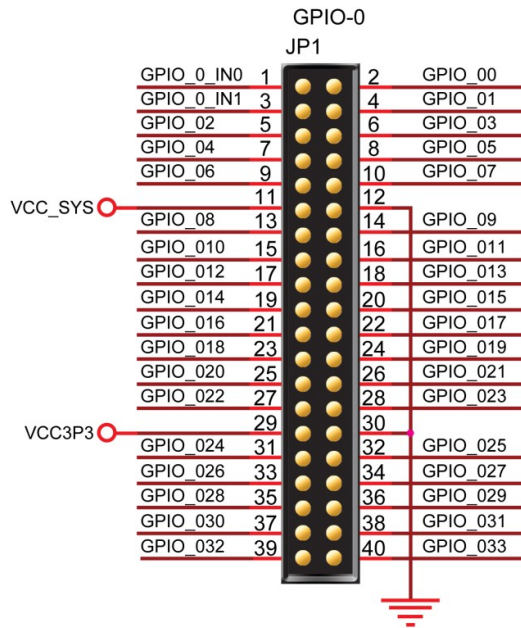

Figure 4: Pin Distribution of the GPIO-0 Expansion Header
- 2.5. Use Figure 4 for the pin labels for the GPIO-0. Table 2 shows the pins assignments for the GPIO-0.